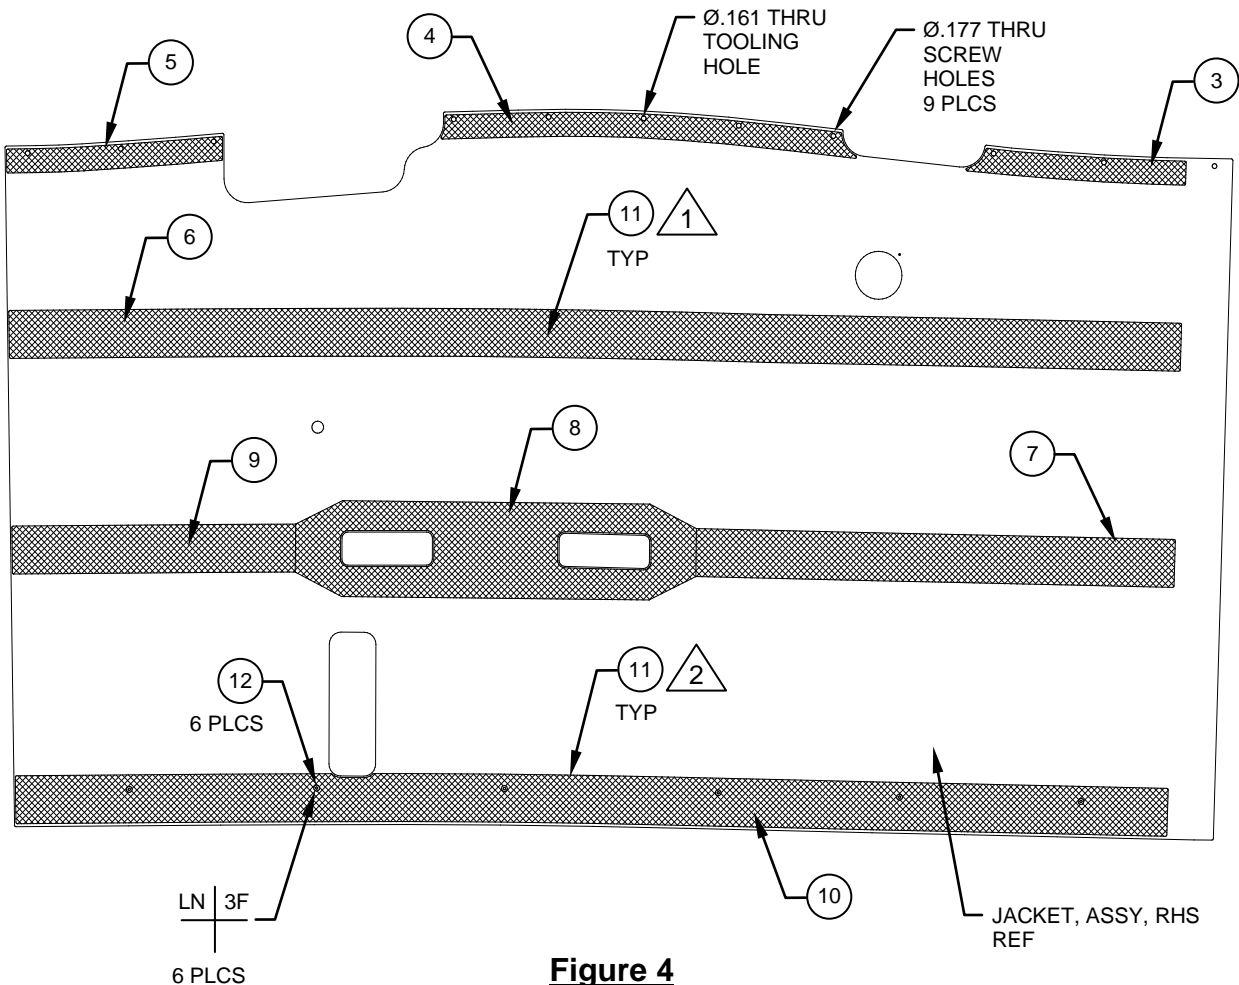

Figure 4
6. Apply the Sealant (Item 11) to the faying surfaces of Refrasil Tape, Details (Item 3, 4, 5, 6, 7, 8, 9, 10). Reference Figure 4.
7. Adhere the Refrasil Tape, Details (Item 3, 4, 5, 6, 7, 8, 9, 10) to the Jacket, Assy using the masking tape installed in step 1 as a reference. Apply a fillet of Sealant (Item 11) around all Refrasil Tape, Detail edges as shown. Remove and disregard the masking tape installed in step 1. Allow the Sealant to fully cure. Reference Figure 4.
8. Back drill the Jacket, Assy, RHS rivet holes into the Refrasil Tape, Detail, AFT (Item 11). If applicable, back drill the Wear Strip, Detail (Item 1) rivet hole into the Refrasil Tape, Detail, AFT. Rivet the Refrasil Tape, Detail, AFT in position as shown. Reference Figure 4.
9. Back drill the Jacket, Assy, RHS tooling hole and screw holes into the Refrasil Tape, Details (Item 3, 4, 5) as shown. Reference Figure 4.